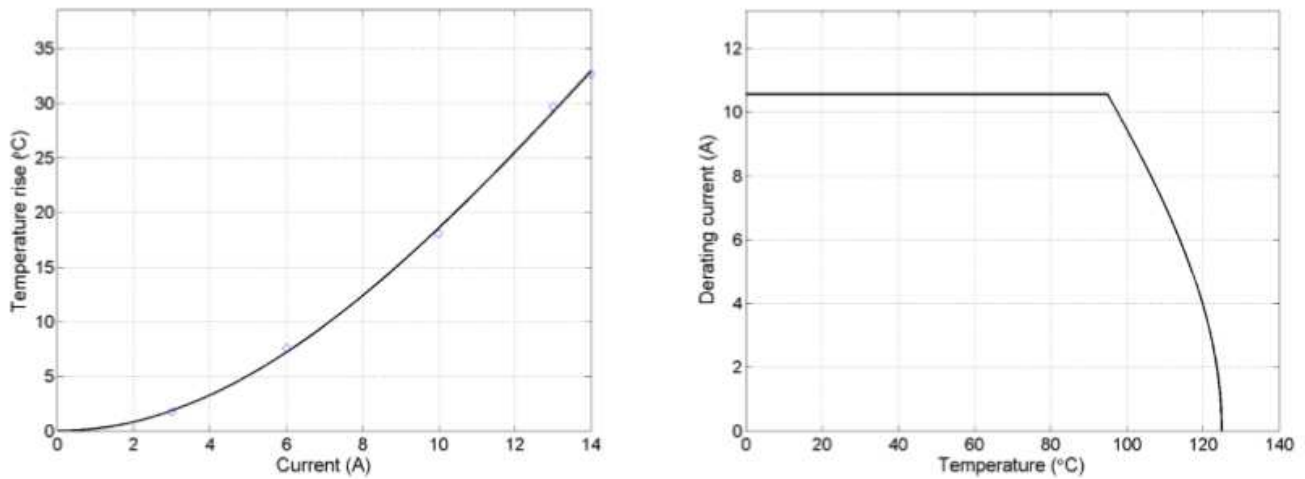

Figure 4- typical derating curve of 2238173-3 AWG22#
2.4 Refer to figure 4 for the curve of 2238173-3 (Faston) with AWG22#.